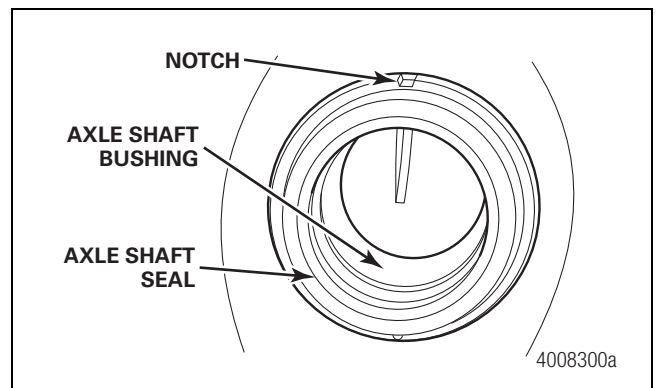

Figure 4.6
11. Remove the axle shaft seals from the housing. Figure 4.6.